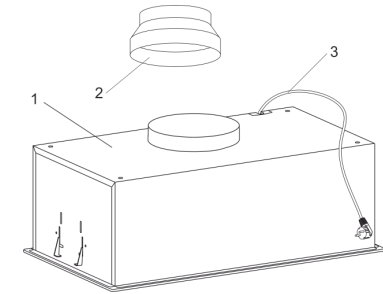
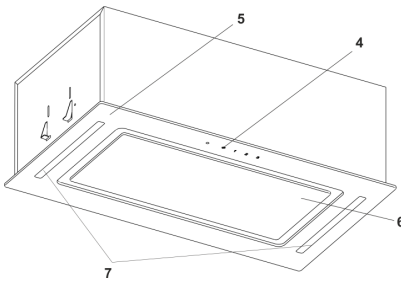

Fig. 3
Fig.3.1
5.4 The Kitchen hood consists of the following components (fig.3 / fig.3.1).